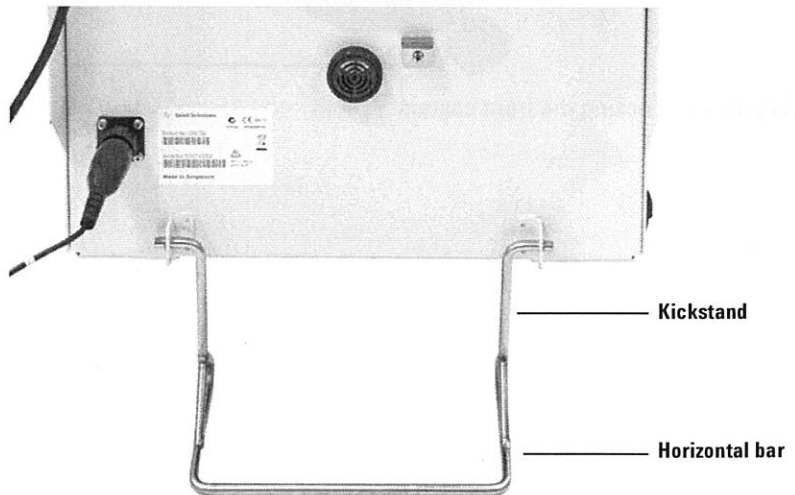

Figure 18 Quiet Cover DS in a tilted position
- 4 With the kickstand released from the clip, step down on the horizontal bar until the Quiet Cover DS is in its tilted position (Figure 18).